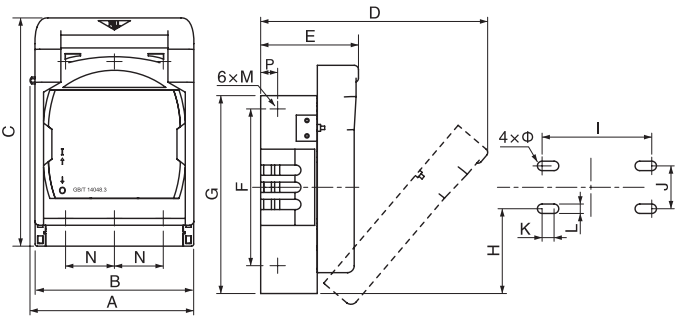

Fig. 1 Installation and outline dimensions drawing for HR17N series fixed type
6.1 The outline and installation dimensions of the fixed type see Table 2 and Fig. 1.